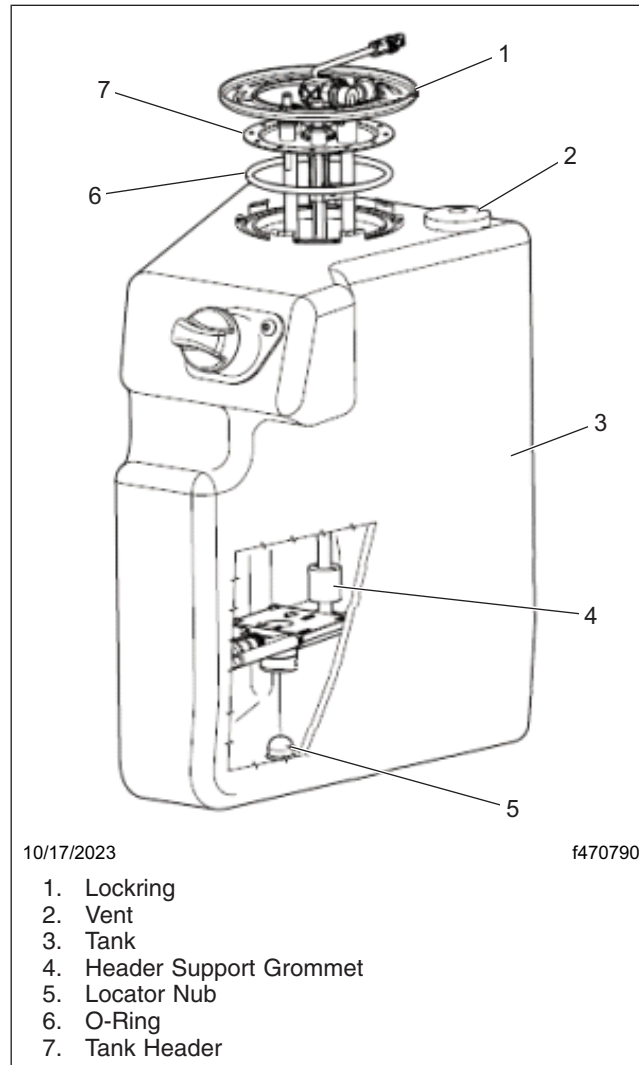

Fig. 5, 10-Gallon DEF Tank Mounting Assembly
15. Rotate the header lockring counter-clockwise to loosen it, then remove the lockring. See Fig. 5.
18. Install the header lockring and rotate it clockwise to secure it to the tank. Make sure the O-ring, between the lockring and the tank, is in the molded groove and is not pinched when the lockring is rotated in place. See Fig. 5.